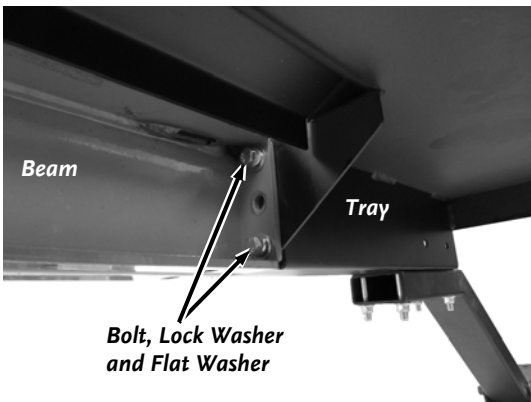

Figure 7
8. Install the four Bolts, Lock Washers and Flat Washers (from the tray kit) to secure the Tray to the end of the Beam using a 9/16" Wrench (**Figure 7**).